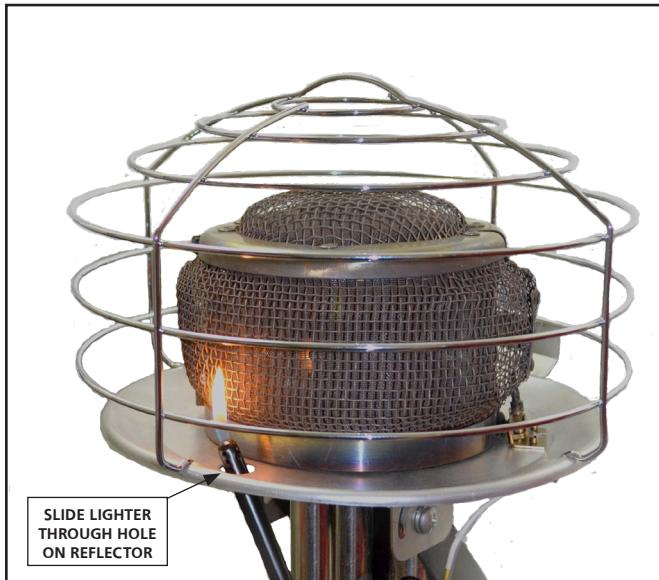

Figure 5
- D. To light the MH540T, depress and hold the Safety Shutoff Valve. While holding the Safety Shutoff Valve button immediately light heater through the hole on the base of the reflector. Figure 5